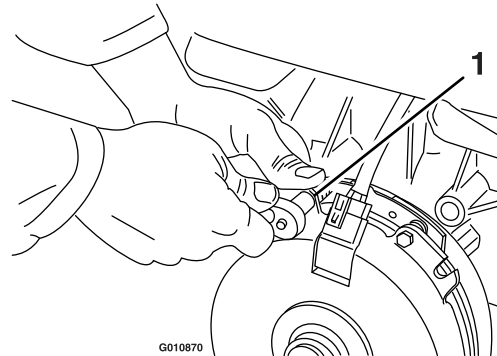

Figure 66
- A. Loosen both brake mounting bolts 1/2 to 1 full turn as shown in Figure 66.